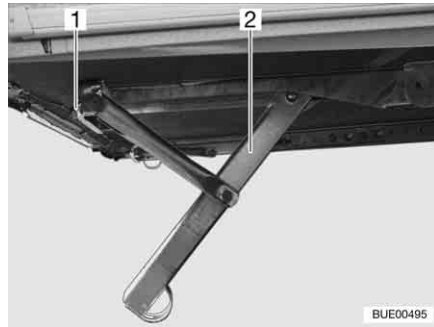
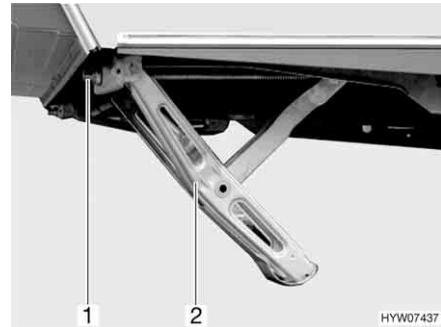

Fig. 20 Corner steady cranked down (variant 1)
Fig. 21 Corner steady cranked down (variant 2)
- Place the hand crank handle provided as standard on the hexagonal nut (Fig. 20,1 or Fig. 21,1) of the corner steady (Fig. 20,2 or Fig. 21,2).